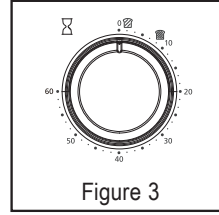

Figure 3
- 4. Timer Control Knob with Bell Signal** – Set cooking time up to 60 minutes. Will automatically turn the oven OFF at the end of the cooking time. (See Figure 3)